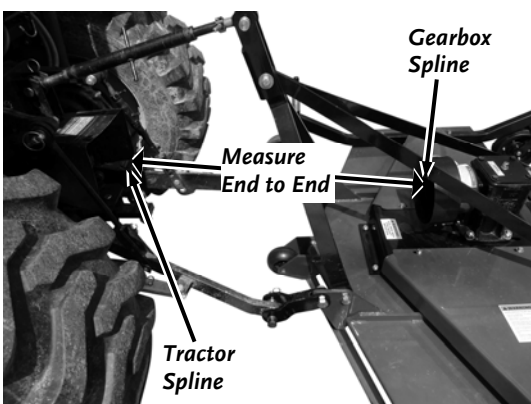

Figure 22: Low Position
1. Lower the Mower all the way to the ground in the operating position (**Figure 22**). Measure from the end of the Tractor Spline Shaft to the end of the Mower Gearbox Shaft and record this dimension in the "ON GROUND" row of the table above.